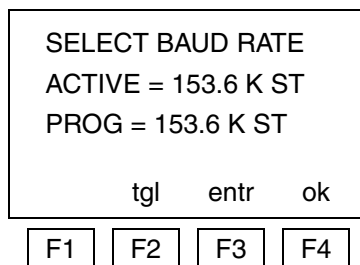

Figure 112. Block Baud Rate Configuration Screen
8. After the block number is entered, F4 becomes the Next key. Press it to go to the baud rate screen, Figure 112.